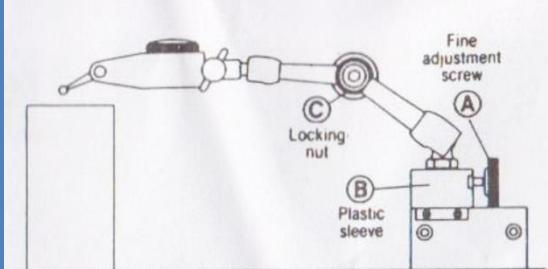

Fig. 1 NOGAFLEX set up for fine adjustment.
3. Bring measuring point to required location, as in Fig. 1. And tighten nut "C".